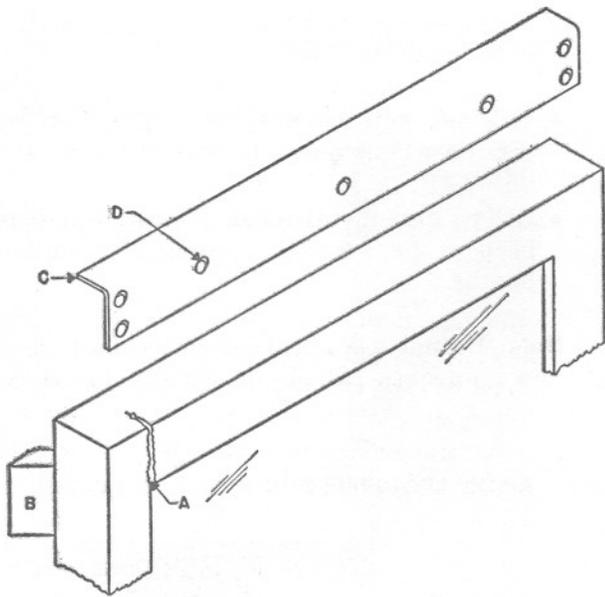

Fig. 1 – Door Repair Bracket
3.02 Replace door sections that have broken mitered joints. Repair solid-type (one piece) sections. (See Fig. 1.)